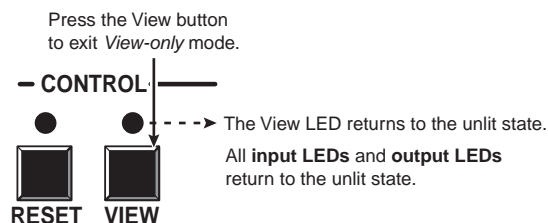

Figure 3-32 — Press the View button to exit View-only mode
6. Press and release the View button to exit View-only mode (figure 3-32).